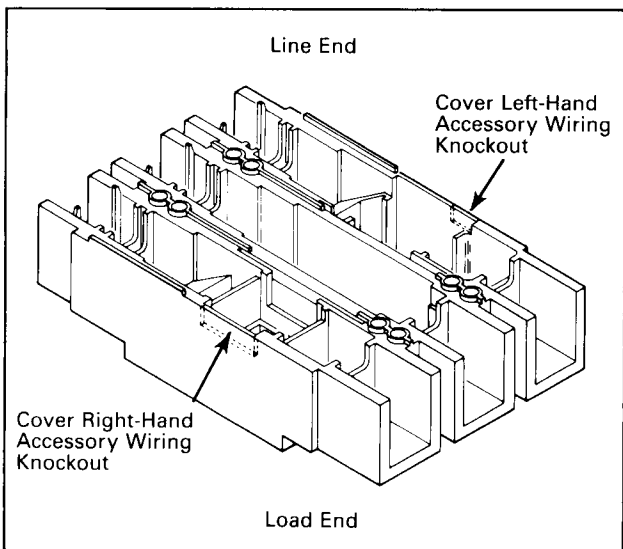

Fig. 2-2. Location of Accessory Wiring Knockout in Cover
- 2-4. Locate knockout (Fig. 2-2) provided in left-side of cover for accessory wiring. Remove knockout and file rough edges green smooth.